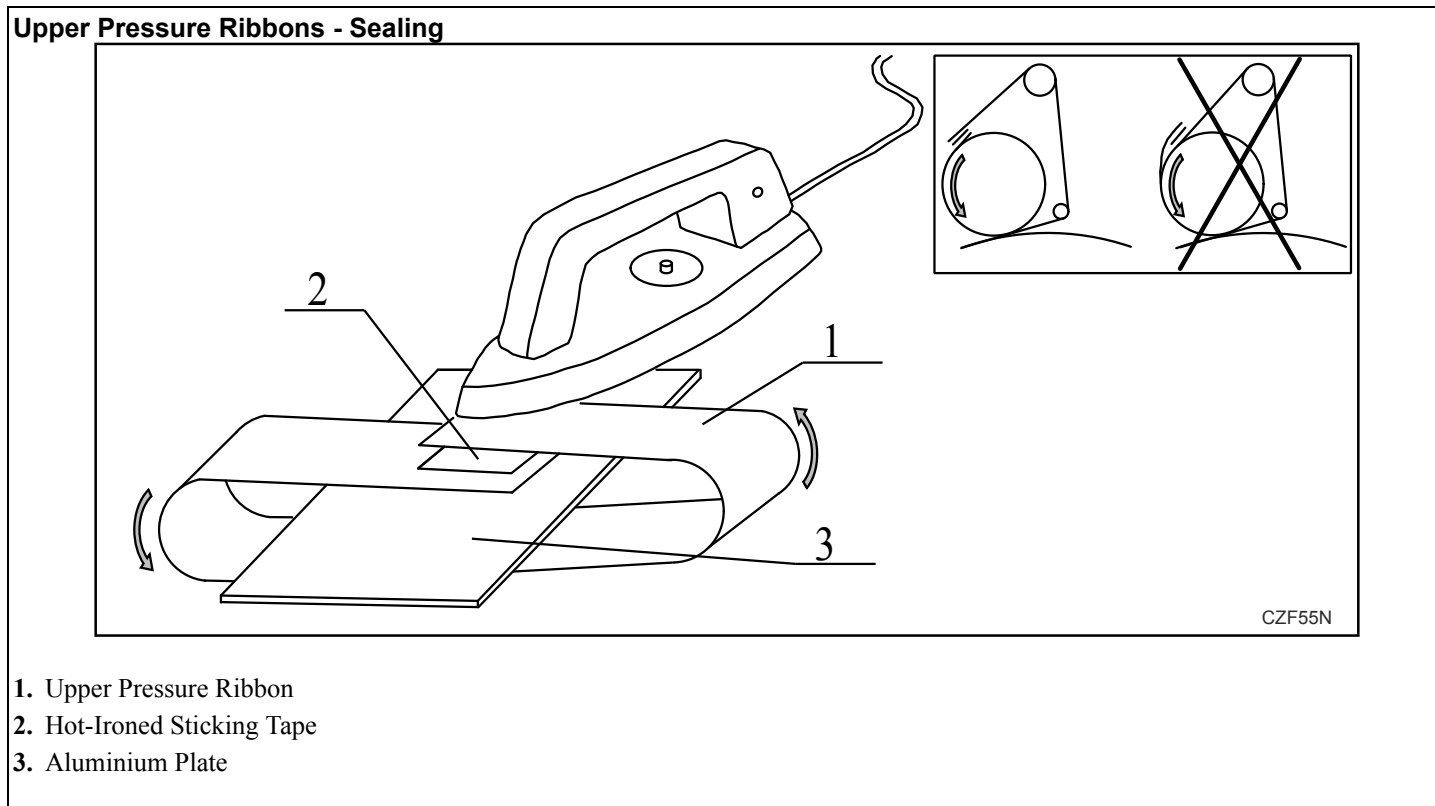

Figure 45
- The operating condition of the ribbons should be checked at intervals as specified by chapter *Cleaning of the Machine - Inspection Intervals*. Missing ribbons must be replaced. New ribbons might be, in an emergency situation, joined by a knot. However, the knots get imprinted into the padding of the upper pressure roller, and subsequently into the ironed linen. It is therefore recommended by the manufacturer to use the original method of joining the ribbons - sealing by adhesive (refer to *Figure 45*).